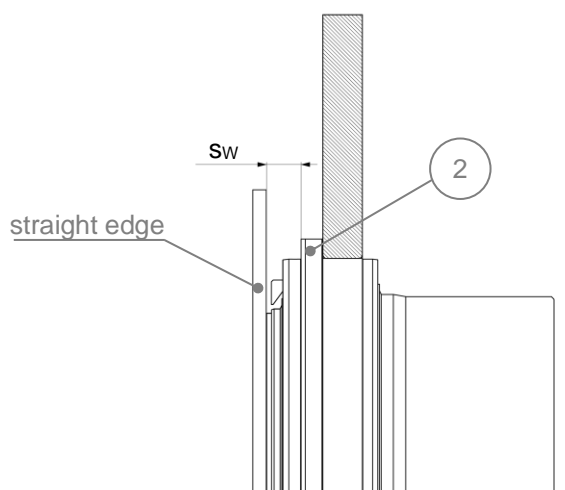

Fig. 7: Checking the angular position
- Check the angle between the housing (item 2) and the hub face. To do this, measure the distance s_w in the circumferential direction at at least four points, each offset by 90° , Fig. 7. A straight edge or dial gauge can be used as an aid, for example. The maximum difference between the individual measurements must not exceed the values for Δs_w given in Table 1.